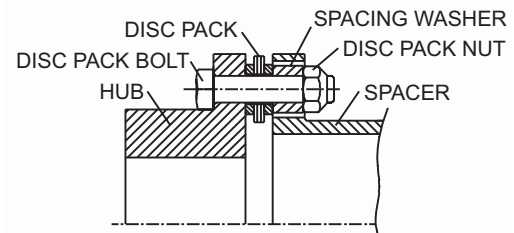

Figure 5. Bolt Disc Pack to Hub
- 4.2 Insert the disc pack bolt into the reamed hole of the hub and through the disc pack bushing. See Figure 5. The flat of the bolt head will act as a bolt lock with the hub body. Make sure the spacer is properly indexed for the large clearance holes to receive the bolt ends. Tap the bolts lightly for full engagement until the heads rest on the hub flange surface. Repeat for the other bolts.